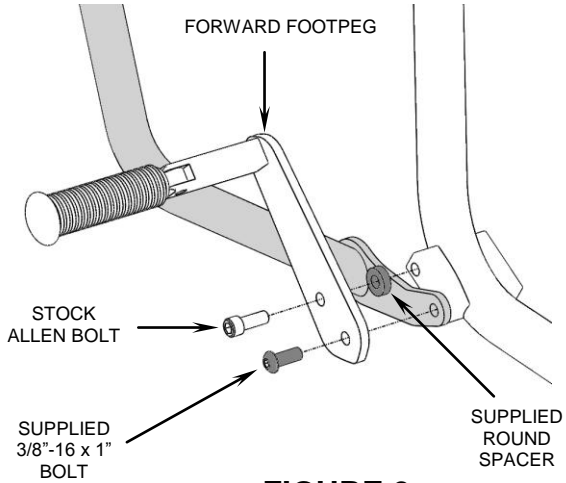

FIGURE 2
3. **(SELECT MODELS ONLY)** If your motorcycle is equipped with forward footpegs you may reinstall them using the supplied round spacers in conjunction with the stock allen bolts. See Figure 2. **DO NOT FULLY TIGHTEN.**